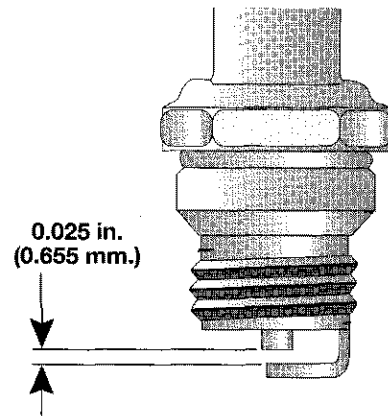

Fig. 35
3. Replace cracked, fouled or dirty spark plug. Set the air gap at 0.020 in. (0.5 mm.) using a feeler gauge (Fig. 35).